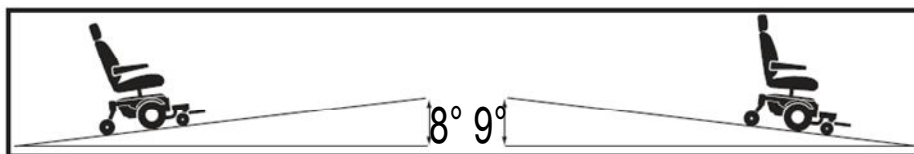

Figure 2
The following are tips that should be followed when approaching, climbing, or descending inclines/declines in grade and/or ramps. See Figure 2 below for the maximum safe slope.
**WARNING! Even though your Zip'r Mantis is capable of climbing slopes greater than those described in Figure 2, do not under any circumstance exceed the guidelines presented in this manual.**